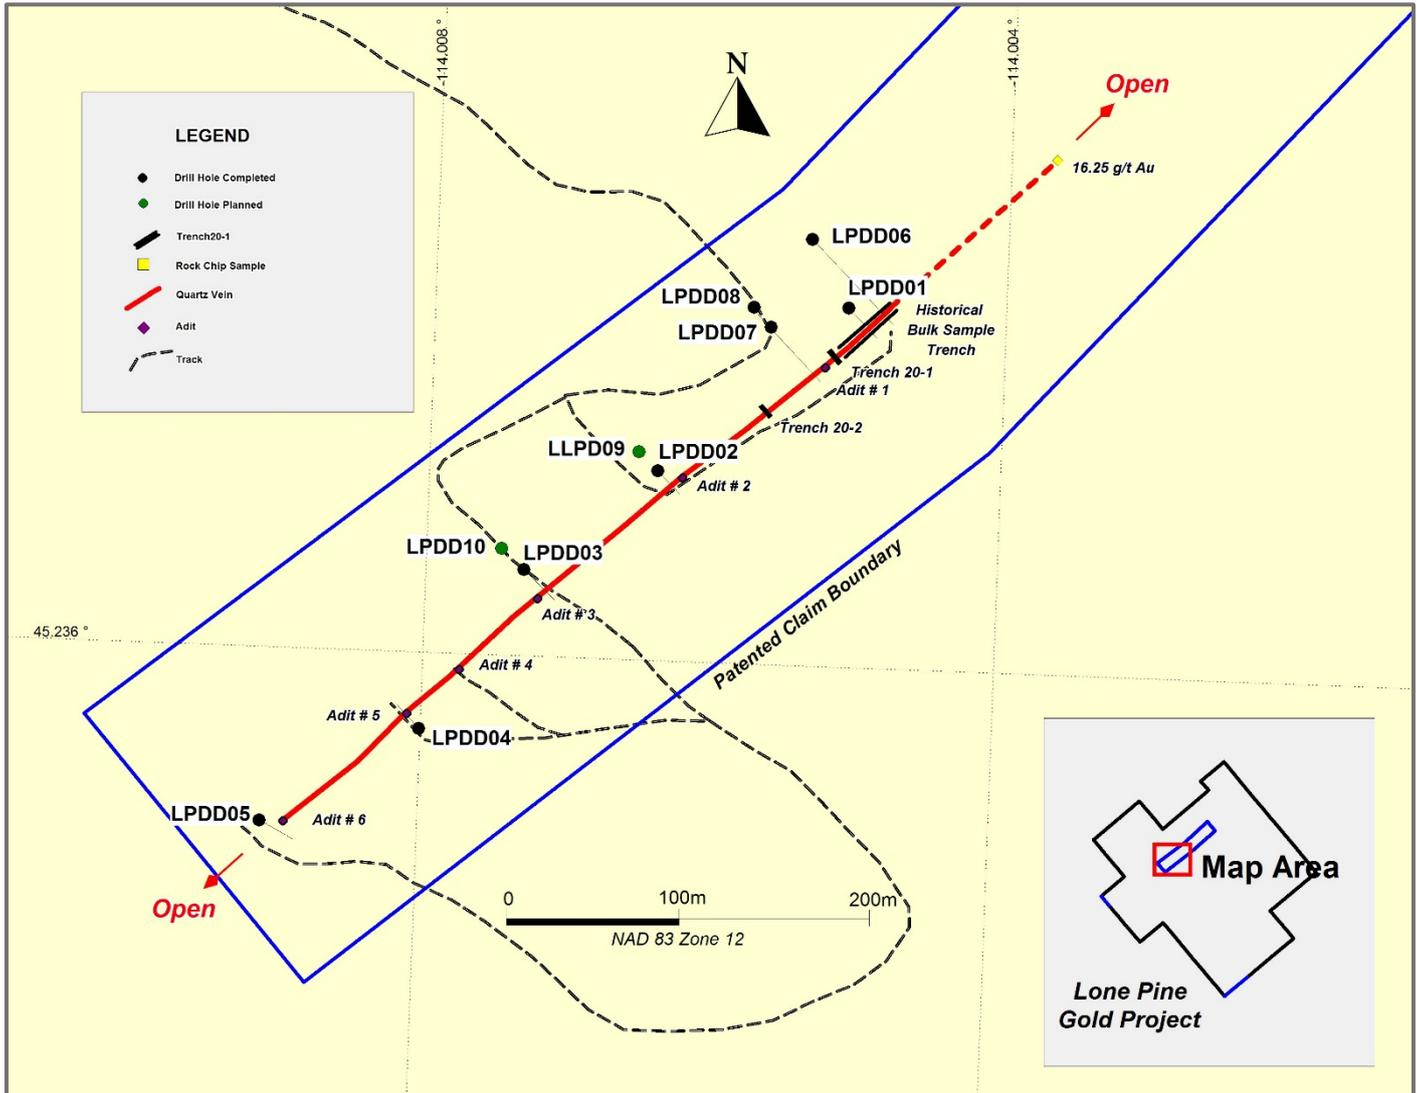

Figure 1 – Lone Pine Vein Zone, Drill Collars, Trenches
Results have been received for the first 7 holes in the drill program, LPDD01 to LPDD07 (Figures 1, 2 & 3):
**Trench 20-1** located 20m southwest of LPDD01 and 13m northeast of LPDD07, exposed the altered clay-gouge-vein zone **averaging 9.38 g/t Au over 1.83m**, which is very close to true width as the vein dips steeply 80-85° to the northwest (Figure 1 & Table 2).